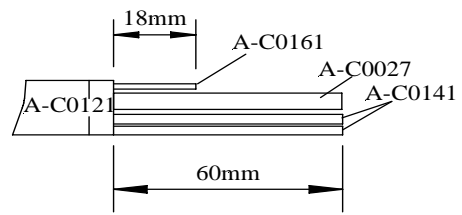

Fig.5-1-4
- 2) Cut the Jet Supply Tube LG (A-C0161), A/W Supply Tube LG (A-C0141) and Suction Channel LG (A-C0027) with a sharp razor blade at the length as shown in Fig.5-1-4.